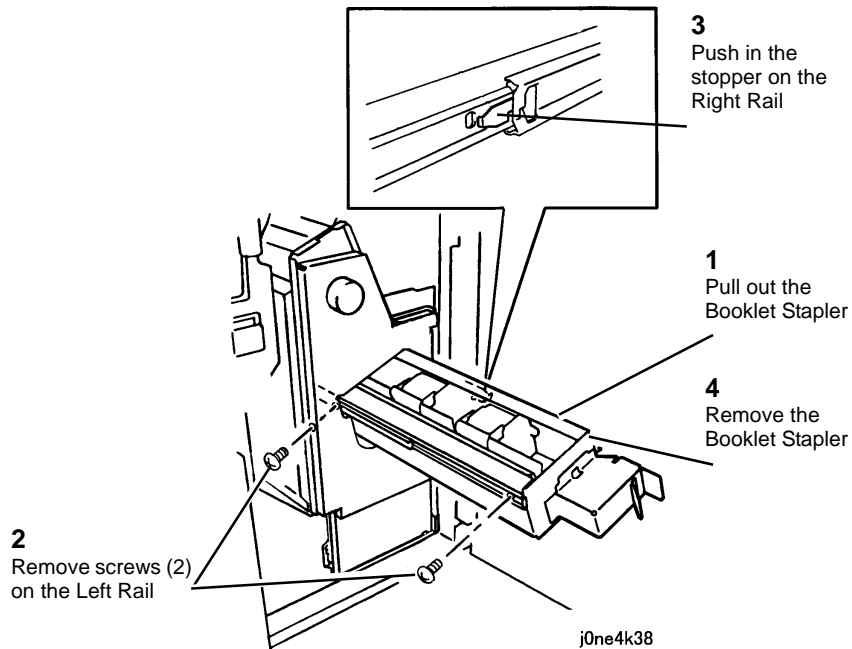

Figure 1 Removing the Booklet Stapler
6. Remove the Booklet Stapler (Figure 1).